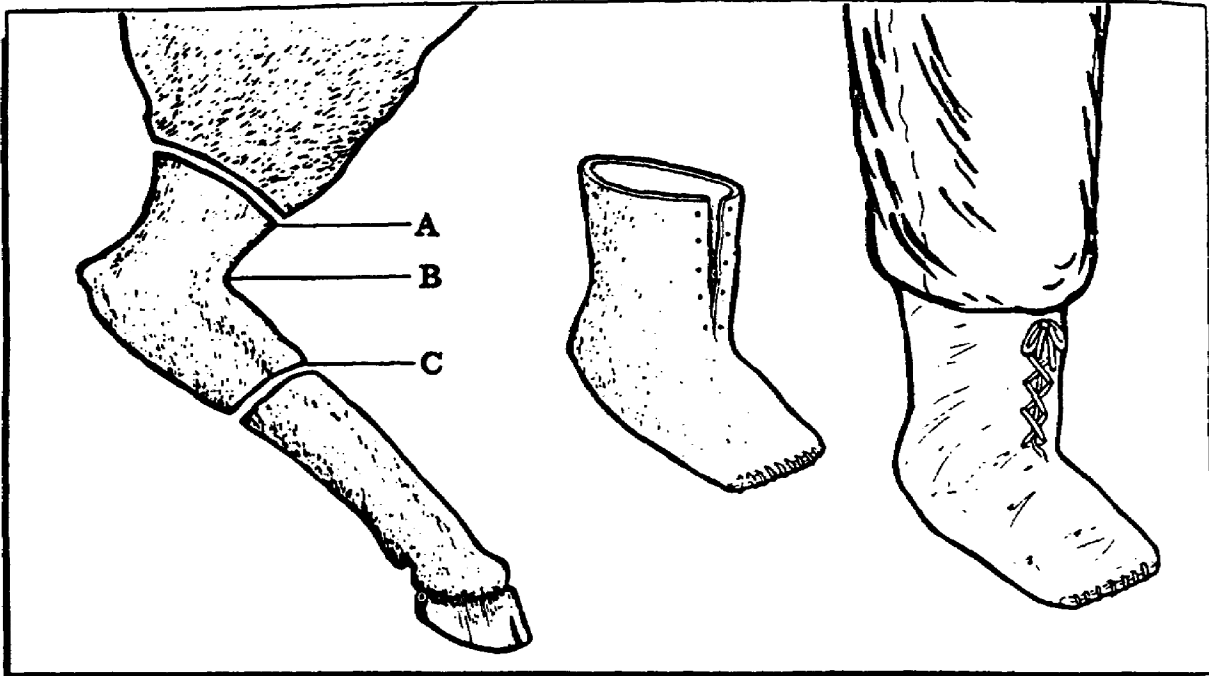

Figure 15. Moose hock shoes.
h. Moose Hock Shoe. The hock skin of a moose or caribou provides a suitable pair of shoes as shown in Figure 15. Cut the skin around the leg at A and C. Separate the skin from the leg and pull it over the hoof. Shape and sew up the small end C. Slit the skin from A to B; bore holes on each side of the cut for lacing. Turn it inside out and lace it with rawhide, suspension line, or other suitable material.